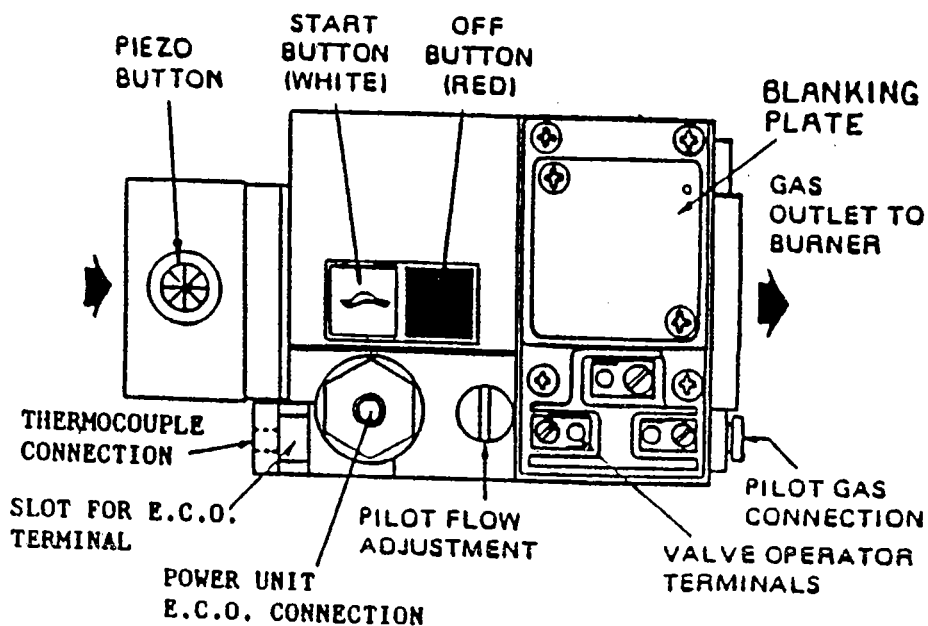

Fig.1 - Honeywell V4400 B
- 1) The Honeywell 3/4 in control valve is type V4400D which is a Softlite L.P.G. valve with a blanking plate in place of the pressure regulator. (See Fig. 1).
When the controlling thermostat calls for heat a high energy spark is produced at the spark electrodes and the pilot gas valves, (see Fig. 1), are energised to establish a start gas flame on the centre burner bar (20% of the total boiler input rating). Following the start gas ignition period of approximately 5 seconds, the spark is removed and providing the start gas flame is established and detected by the flame probe, the main flame valve opens after a start gas establishment period of approximately 20 seconds, to admit gas to the remaining 4 burner bars and full energy input to the boiler.
- 6) The height of the manual gas cock above the floor level is greater than on the basic boiler range particularly on the UR 365 and UR 430 modules (see Fig 1).
Locate the correct position for the controller base on the inside front panel of the casing (see Fig. 1) and mount the base, cable entries downwards using the two M4 screws provided.